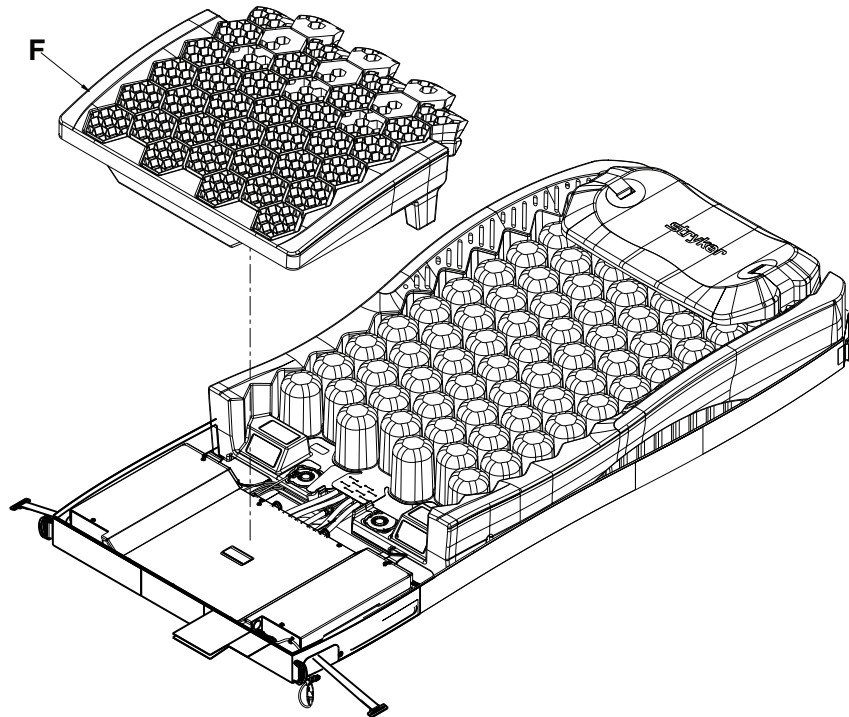

Figure 25 – Gel crib
3. Lift up on the foot section gel (F) to remove the gel crib from the pod assembly (Figure 25). Save the gel crib.